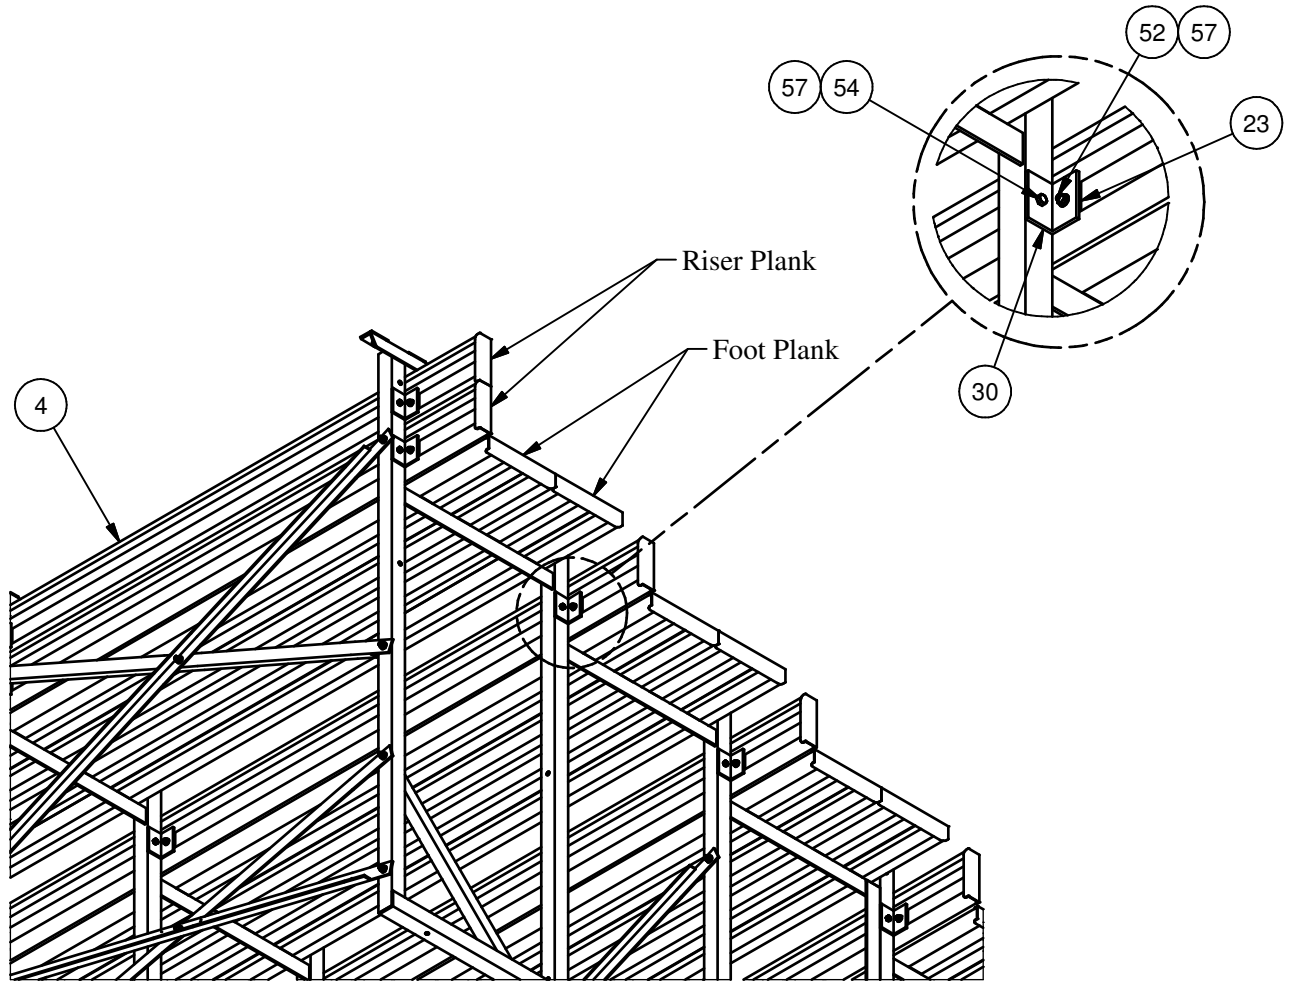

Figure 8
7. Install the riser planks on the 2nd through 8th row seat vertical angles. First install the riser mounting angle onto the upright using the 5/16" x 1" hex bolt and 5/16" whizlock nut. Note: Two (2) angles are used on the top row verticals. Once all the mounting angles have been installed at all frame positions, loosely install the mounting clip with the 5/16" x 1" carriage bolt and 5/16" whizlock nut. See figure 8. Angle clips are not required on the first row. Connect the first row riser to the first row upright with mounting clips, 5/16" carriage bolts and 5/16" nuts only.